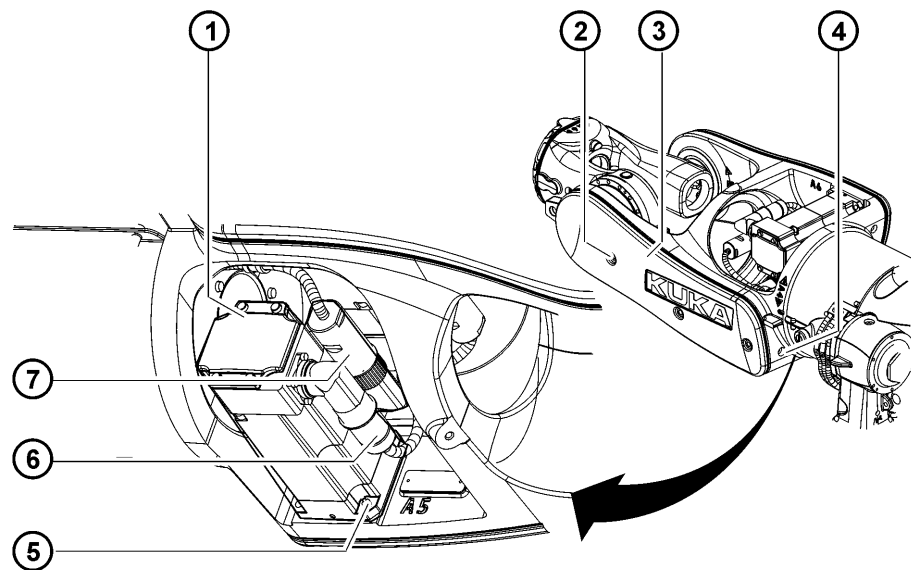

Fig. 11-9: Removal of motor A5
1. Slacken Allen screw (>>> Fig. 11-9) and nut and unscrew them by a few turns.